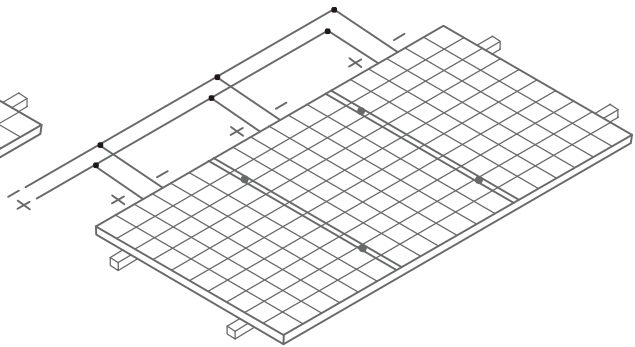

Figure 6 Parallel connection mode
- When connected in parallel, the output current of the whole series of the modules is equal to the current sum of each branch module or module series (parallel connection mode is shown in Figure 6). Each series of modules should be fused. Please refer to the national or local specifications. Refer to the formula for the maximum number of modules connected in parallel: $\text{Maximum protection current} / (1.3 * \text{short circuit current})$.